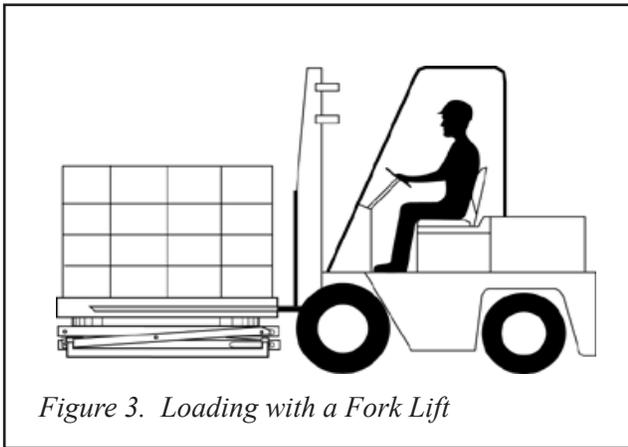

Figure 3. Loading with a Fork Lift
1. Place the load on the lift, then lower the fork lift. Before removing the load, be sure the unit is carrying the weight, not the fork lift. See Figure 3.